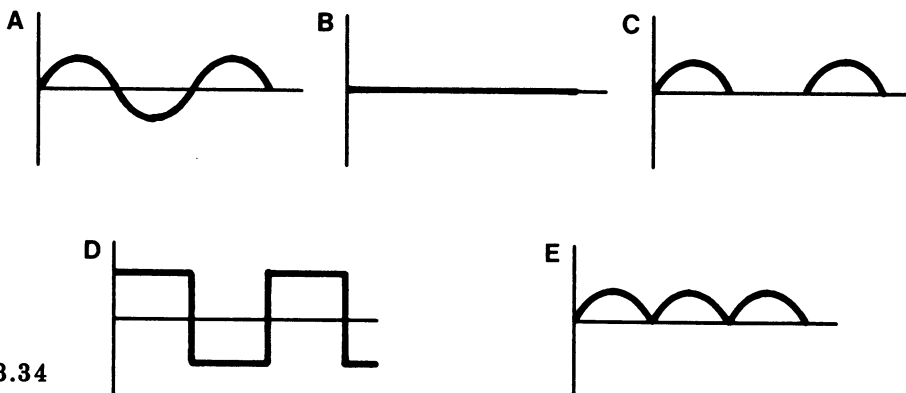

FIG. 3.34
27. The diagrams A-E in Fig. 3.34 are traces seen on the screen of an oscilloscope.